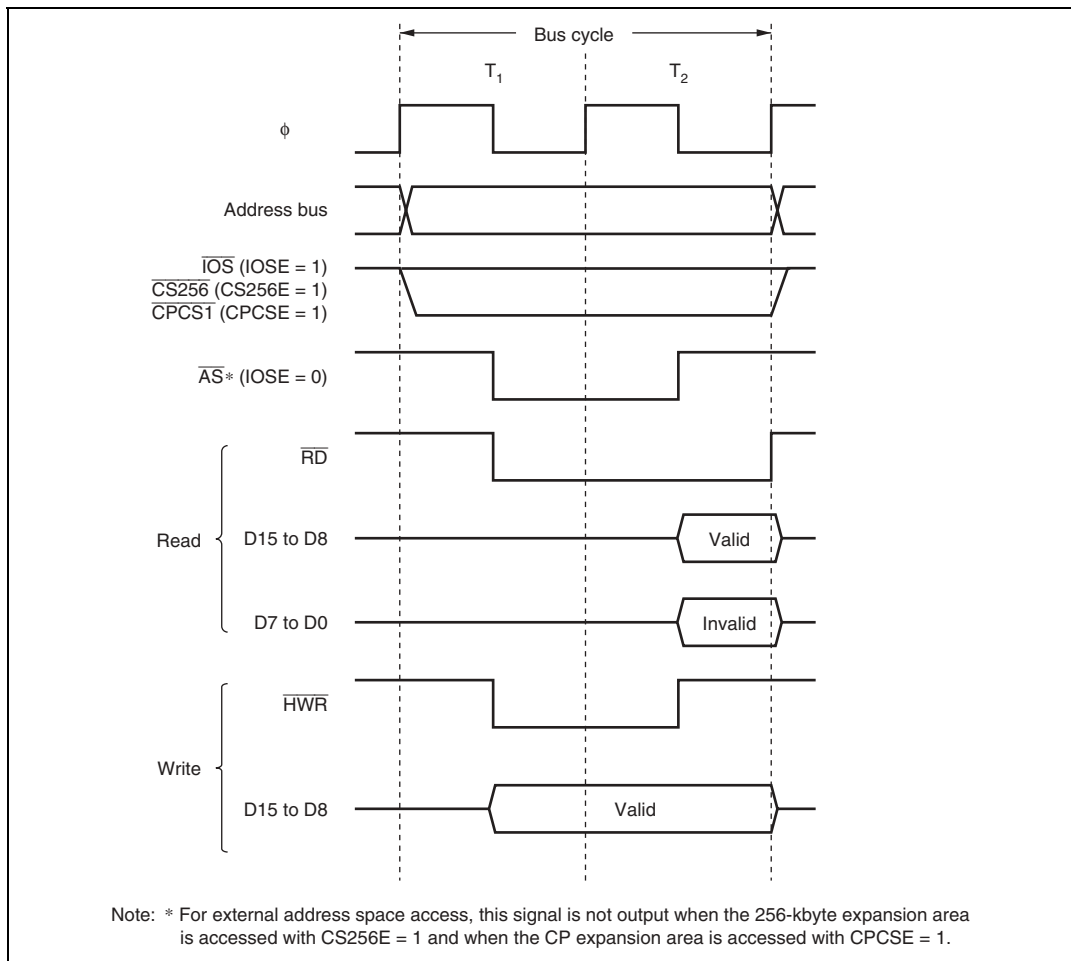

Figure 6.5 Bus Timing for 8-Bit, 2-State Access Space
(1) 8-Bit, 2-State Access Space: Figure 6.5 shows the bus timing for an 8-bit, 2-state access space. When an 8-bit access space is accessed, the upper half (D15 to D8) of the data bus is used. Wait states cannot be inserted.